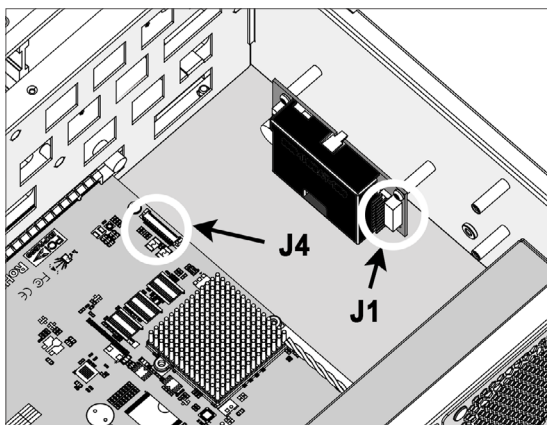

Figure C-7, Insert the cable connector into J1 & J4
3. Insert the cable connector into the **J1** (12-pin box header battery connector on ARC-6120-BAT121-7 module), and also insert another side of the cable connector into the **J4** (14-pin box header battery connector on ARC-5088 backplane), as shown in Figure C-7.